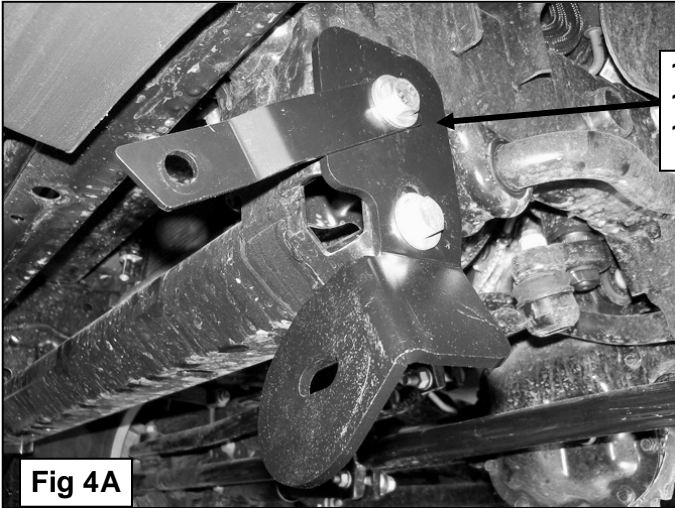
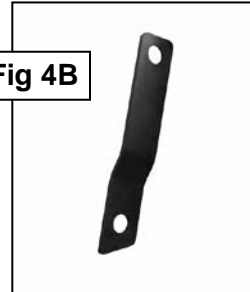

Fig 4A
Fig 4B
- Next, select the driver side Support Bracket, **(Figure 4A)**. Bolt the Support Bracket to the upper hole in the Mounting Bracket with (1) 12mm x 40mm Hex Bolt, (1) 12mm Flat Washer and (1) 12mm Lock Washer inserted through the Support Bracket, the upper hole in the Mounting Bracket, crossmember and into the upper hole in the Nut Plate, **(Figure 4B)**. Snug but do not tighten the hardware at this time.